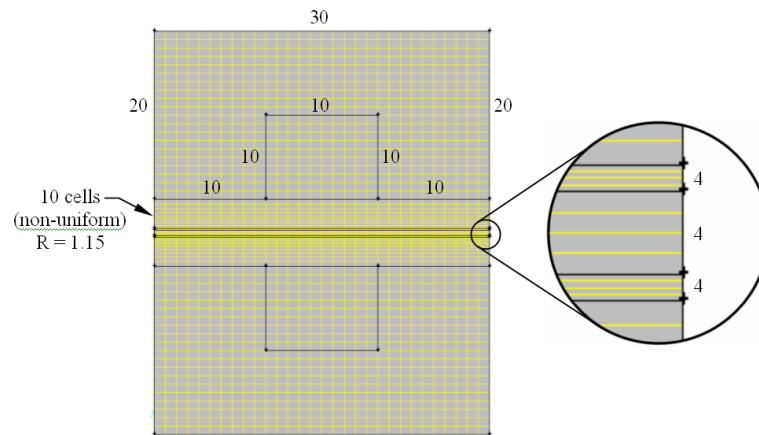

Figure 2: Edge and Face Mesh
The resulting mesh should appear as shown in Figure 2.
1. Mesh the edges as shown in Figure 2.